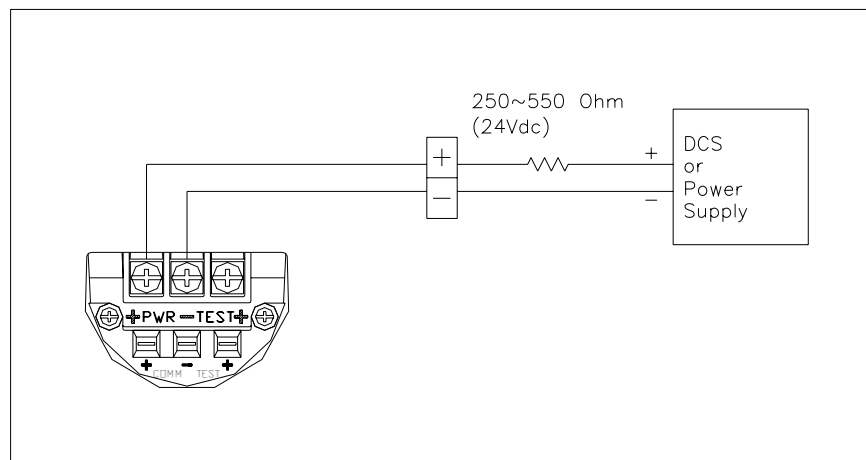

Figure 4-2 Connection with Terminal Board of Transmitter
- (7) You have to connect 250~600 W Loop Resistor in Current Loop(between Power Supply and Transmitter) for HART Communication HART. Following Figure 4-2 about conection of Current Loop.